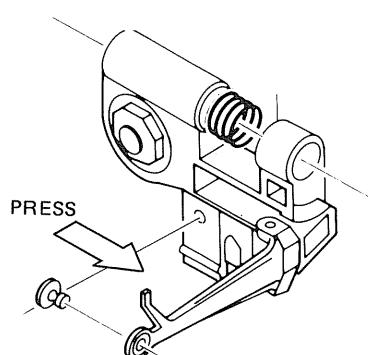

FIGURE 10
c. To install load button, press the button into the arm, from the head side, and it will snap in place. Reference Figure 10.